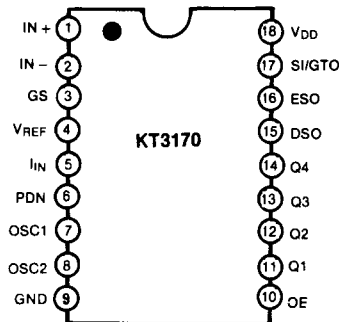

Fig. 1
12. Referenced to Fig. 1 Input DTMF tone level at - 28dBm.